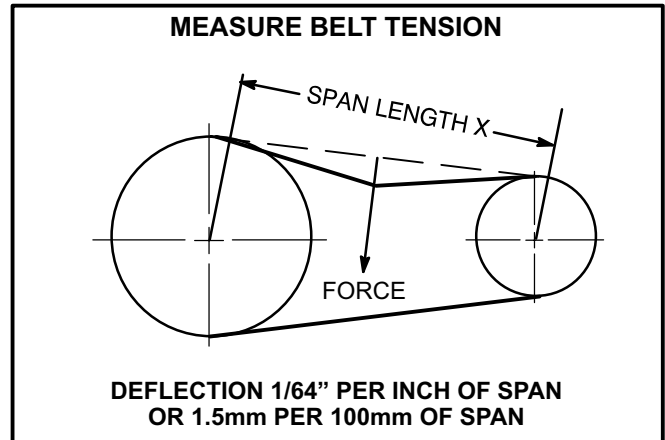

FIGURE 9
- 1- Measure span length X. See figure 9.
- 2- Apply perpendicular force to center of span (X) with enough pressure to deflect belt $1/64$ " for every inch of span length or 1.5mm per 100mm of span length.